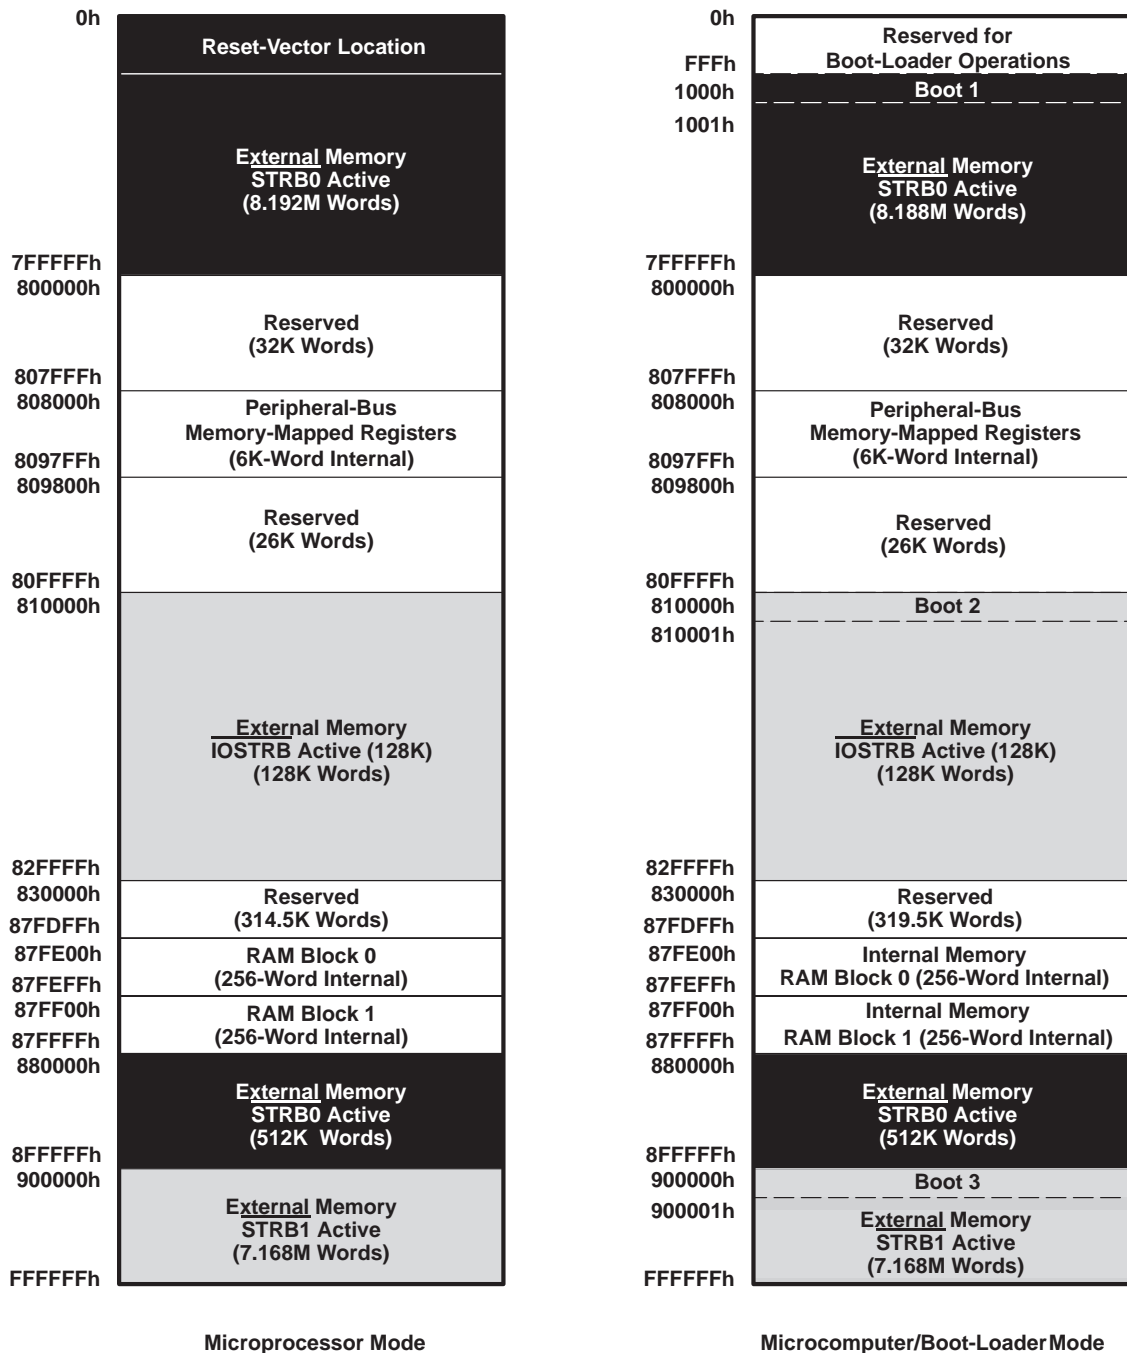

Figure 8. SM320C32-EP Memory Map
- $\overline{\text{STRB0}}$ and $\overline{\text{STRB1}}$ are sets of control signals, four signals each, that are mapped to specific ranges of external memory addresses. When an address within one of these ranges is accessed by a read or write instruction (CPU or DMA), the corresponding set of control signals is activated. Figure 8 illustrates the SM320C32-EP memory map, showing the address ranges for which the strobe signals become active.
- The $\overline{\text{IOSTRB}}$ control signal, like $\overline{\text{STRB0}}$ and $\overline{\text{STRB1}}$, is also mapped to a specific range of addresses but it is a single signal that can access only 32-bit data from 32-bit-wide memory. Its range of addresses appears in Figure 8, the SM320C32-EP memory map. The $\overline{\text{IOSTRB}}$ bus timing is different from the $\overline{\text{STRB0}}$ and $\overline{\text{STRB1}}$ bus timings to accommodate slower I/O peripherals.
Figure 8 depicts the memory map for the SM320C32-EP. See the *TMS320C32 Addendum to the TMS320C3x User's Guide* (literature number SPRU132B) for a detailed description of this memory mapping.
To reduce external logic and simplify the interface, the external interrupts can be either edge- or level-triggered. Unlike the fixed interrupt-trap vector-table location of the 320C30 and 320C31 devices, the SM320C32-EP has a user-relocatable interrupt-trap vector table. The interrupt-trap vector table must start on a 256-word boundary. The interrupt and trap vector locations memory mapping is illustrated in Figure 10. The reset vector is fixed to address 0h as shown in Figure 8.